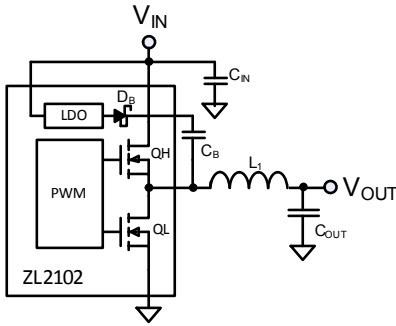

FIGURE 8. STEP DOWN CONVERTER
- 9. Refer to Safe Operating Area in Figure 8 and thermal design guidelines in AN2010.
The ZL2102 operates as a voltage-mode, synchronous buck converter with a selectable constant frequency pulse width modulator (PWM) control scheme. The ZL2102 integrates dual low  $r_{DS(ON)}$  synchronous MOSFETs and a high-side driver to minimize the circuit footprint. Figure 8 illustrates the basic synchronous buck converter topology showing the primary power train components. This converter is also called a step-down converter, as the output voltage must always be lower than the input voltage.